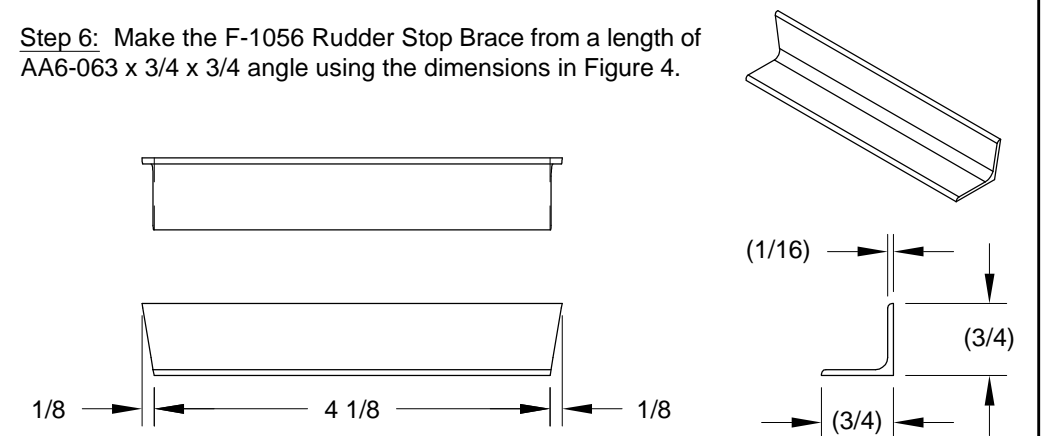

FIGURE 4: F-1056 RUDDER STOP BRACE
Step 6: Make the F-1056 Rudder Stop Brace from a length of AA6-063 x 3/4 x 3/4 angle using the dimensions in Figure 4.